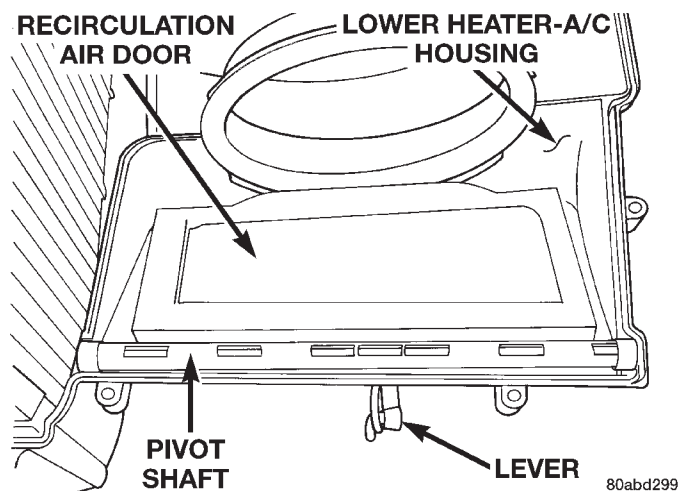

Fig. 54 Recirculation Air Door
- (3) Reach inside the lower half of the heater-A/C housing and lift the bottom edge of the recirculation air door upwards (Fig. 54).